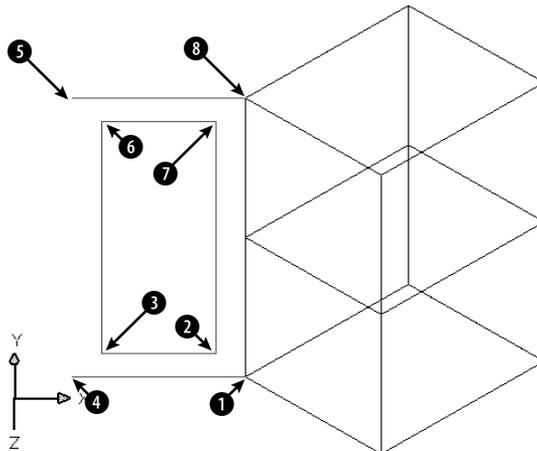

Figure 23-5: The partially completed cabinet.
Your drawing should look like Figure 23-5.
Specify first point or [Invisible]: *Pick the endpoint at ① in Figure 23-5.*
Specify second point or [Invisible]: *Pick the endpoint at ② in Figure 23-5.*
Specify fourth point or [Invisible] <create three-sided face>: *Pick the endpoint at ④ in Figure 23-5. Notice the edge lines between ① and ② and between ③ and ④.*
Specify third point or [Invisible] <exit>: *Right-click and choose Invisible. Pick the endpoint at 5 in Figure 23-5.*
Specify third point or [Invisible] <exit>: *Pick the endpoint at 1 in Figure 23-5.*